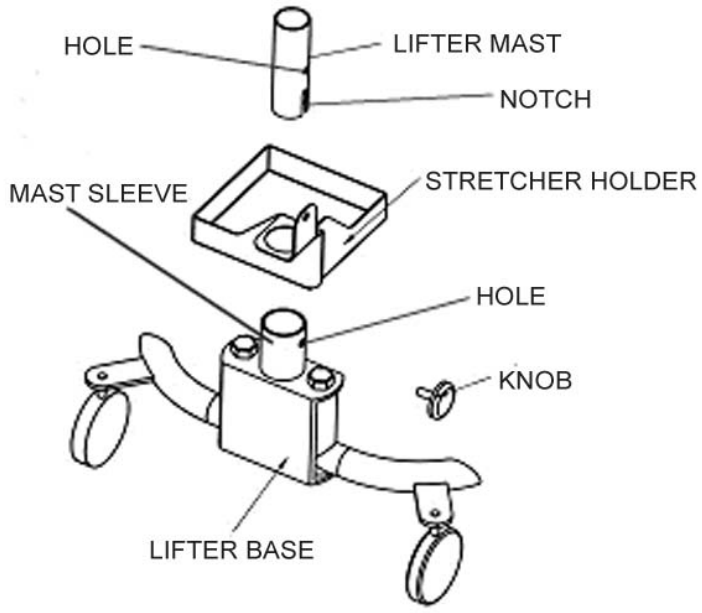

**Figure 1**
- (1) 4.5mm Allen wrench
- (2) Fork joints
- Hardware for assembly (see Figure 1)
### Assembling the 2000KL Scale (Refer to Figures 1 - 12)
9. Locate the NC 3/8 – 20 x 2½” hexagon head screw (see Figure 1, Fastener “I”).
11. Locate the self lock nut (see Figure 1, Fastener “V”).
13. Locate the NC 3/8 – 20 x 1 ¾” hexagon head screw and self lock nut (see Figure 1, Fastener “II” and “V”).
22. Align the four mounting holes on the back of the display assembly with the four mounting holes in the display support. Fasten the display assembly onto the metal display support by using (4) Phillips pan head M4 screws (VIII). Use Phillips head screwdriver to tighten the screws (see Figures 1 & 9).
23. Place the pivot bracket screw covers over the pivot screws. Fasten the covers to the back of the display using (4) Phillips pan head M4 screws (VIII). Use Phillips head screwdriver to tighten the screws (see Figures 1 & 9).
27. Connect the lock rings (IV) onto the two hooks at the end of the lifter boom, using a screwdriver to tighten the set screws (see Figures 1 & 11).
29. Use the hexagon shoulder screws (III) to connect the two stretcher hoops to the load cell beam assembly and securely tighten. Make sure that the stretcher hooks face each other in the inward position, toward the stretcher canvas (see Figures 1 & 11).